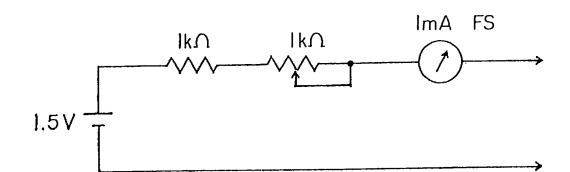

Fig. 15. Chopper Drive Symmetry Adjustment Circuit
- Connect the test circuit shown in Fig. 15.